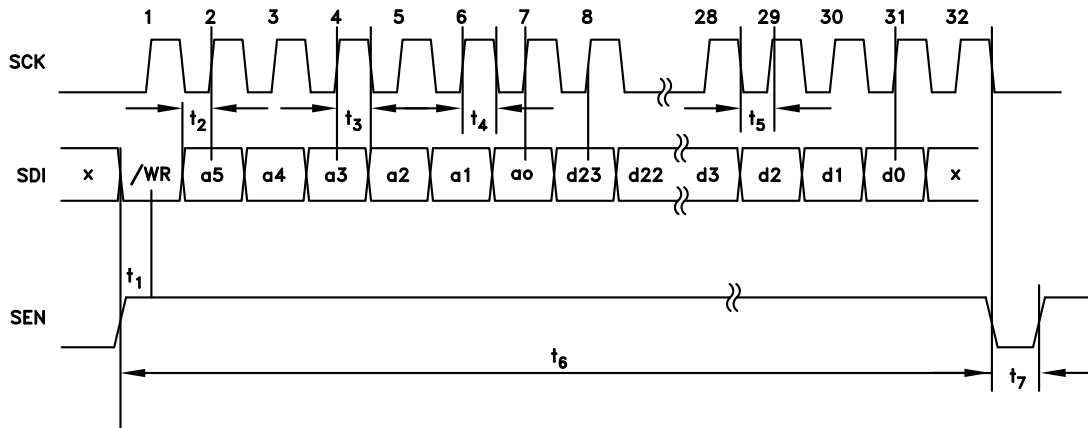

Figure 7. Serial Port Timing Diagram - Write Serial Port WRITE Operation
A typical WRITE cycle is shown in Figure 7.
- The Master (host) asserts both SEN (Serial Port Enable) and SDI to indicate a READ cycle, followed by a rising edge SCK. Note: The Lock Detect function is multiplexed onto the LD_SDO pin. It is suggested that lock detect (LD) only be considered valid when SEN is low. In fact LD will not toggle until the first active data bit toggles on LD_SDO, and will be restored immediately after the trailing edge of the LSB of serial data out as shown in Figure 7.
- The slave (PLL with Integrated VCO) reads SDI on the 1st rising edge of SCK after SEN. SDI high initiates the READ cycle (RD).